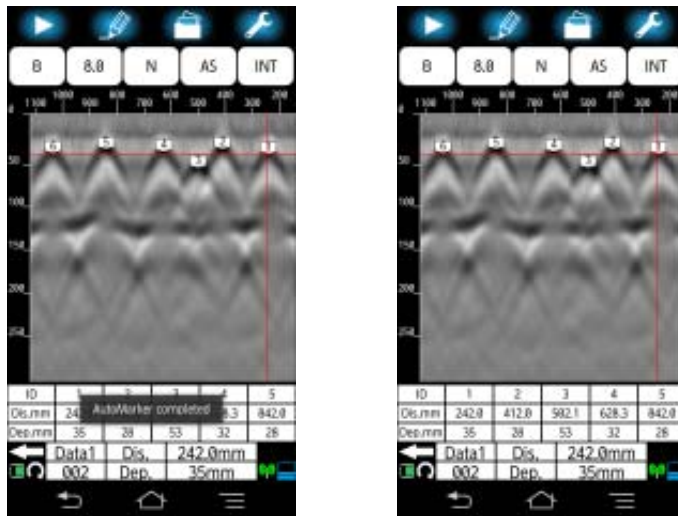

Figure 6-14 AutoMark completion
- (7) The message in the above step automatically disappears, and a message **“AutoMark competed”** is shown briefly , and the markers on the detected rebar are displayed on the main screen as shown in Figure 6-14. Here the cursor moves on the position of the marker number 1.